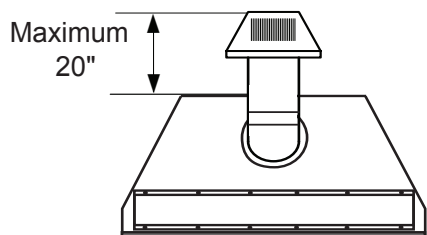
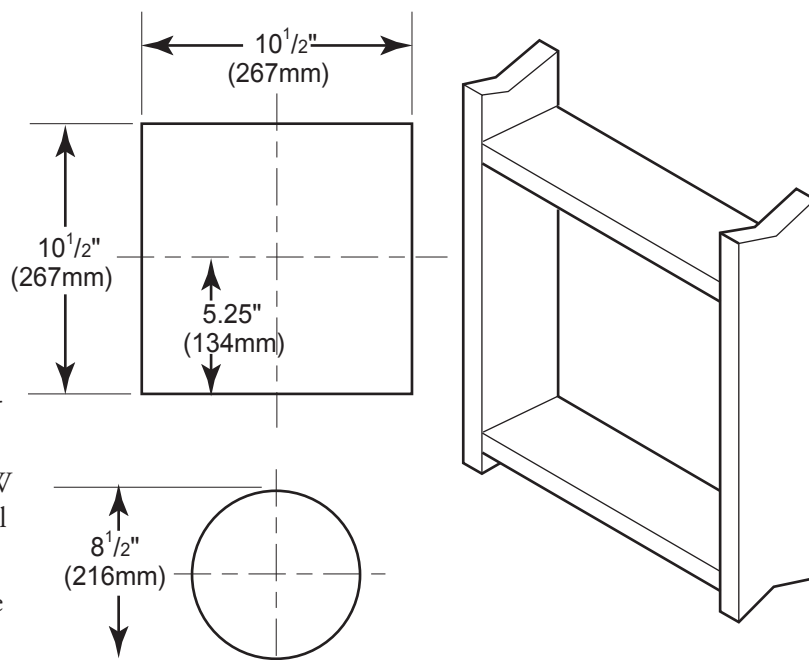

Figure 11 - Rear Vent Application, Maximum Horizontal Distance with two foot minimum rise
Figure 12 - Vent Opening Requirements
The maximum horizontal distance between the rear of the appliance and the outside of termination with 18" minimum rise is 20" (510 mm) See Figure 11.
1. Locate and cut the vent opening in the wall. For combustible walls first frame in opening. See Figure 11.
Combustible Walls: Cut a 10 $\frac{1}{2}$ "H x 10 $\frac{1}{2}$ " W (267mm x 267mm) hole through the exterior wall and frame as shown. See Figure 12.
3. Attach vent pipe assembly to the fireplace. Set fireplace in front of its permanent location to insure minimum clearances. Mark the wall for a 10 $\frac{1}{2}$ "H x 10 $\frac{1}{2}$ "W (241mm x 241mm) square hole (for noncombustible material such as masonry block or concrete, a 8 $\frac{1}{2}$ " [216mm] diameter hole is acceptable). See Figure 11. The center of the hole should line up with the center line of the horizontal rigid vent pipe end. Be sure to allow for minimum rise. Cut a 10-1/2"x10-1/2" (267mm X 267mm) square hole through combustible exterior wall (8 $\frac{1}{2}$ " [216mm] diameter hole if noncombustible). Frame as necessary. Allow $\frac{1}{4}$ " minimum rise per foot. See Figure 12.
1. Establish vent hole through the wall. *See Figure 12, page 17.*